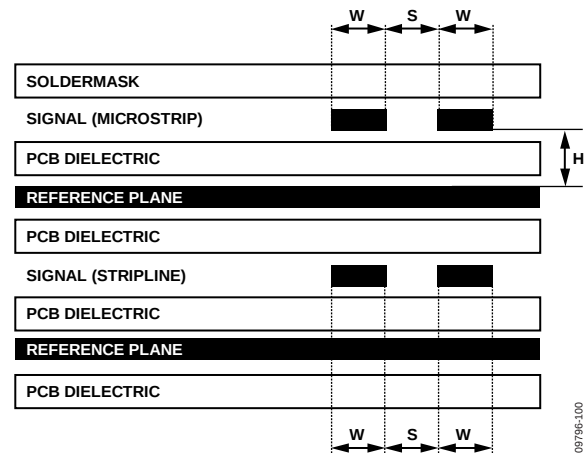

Figure 54. Example of a PCB Cross-Section
The high speed differential inputs and outputs should be routed with  $100\ \Omega$  controlled impedance differential transmission lines. The transmission lines, either microstrip or stripline, should be referenced to a solid low impedance reference plane. An example of a PCB cross-section is shown in Figure 54. The trace width (W), differential spacing (S), height above reference plane (H), and dielectric constant of the PCB material determine the characteristic impedance. Adjacent channels should be kept apart by a distance greater than  $3\ W$  to minimize crosstalk.